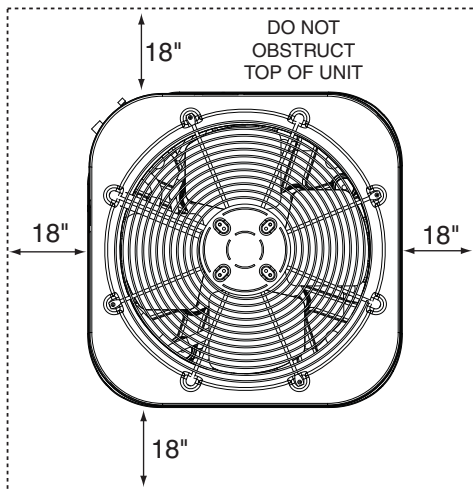

Figure 2. Clearance Requirements
- Sufficient clearance for unobstructed airflow through the outdoor coil must be maintained in order to achieve rated performance. For minimum clearances to obstructions, see Figure 2.
- Clearances must be in accordance with those shown in Figure 2.